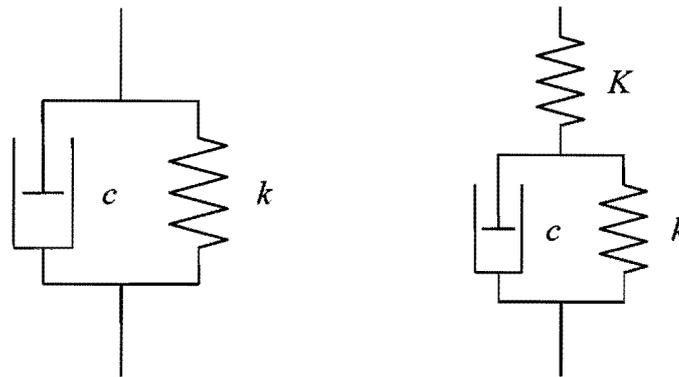

Figure 3
4. (a) Figure 3 shows two spring-dashpot models. The response of these models was analysed in the lectures, for the case of an imposed step in stress.